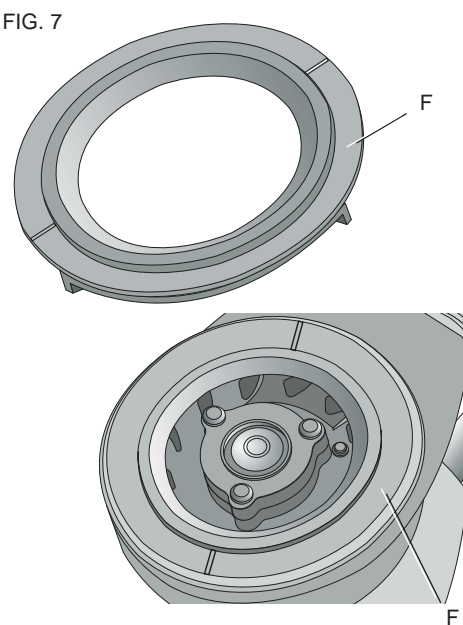

FIG. 8
### Brush Replacement (Fig. 8, 9)
1. Remove the three screws from the top cap and lift off top cap, as shown in Figure 8.
2. Pull the brush spring (I) back (be careful not to pull completely off) and slide out the old brush.
3. Pull the brush wire (J) which is connected to the brush, out of the motor field (K).